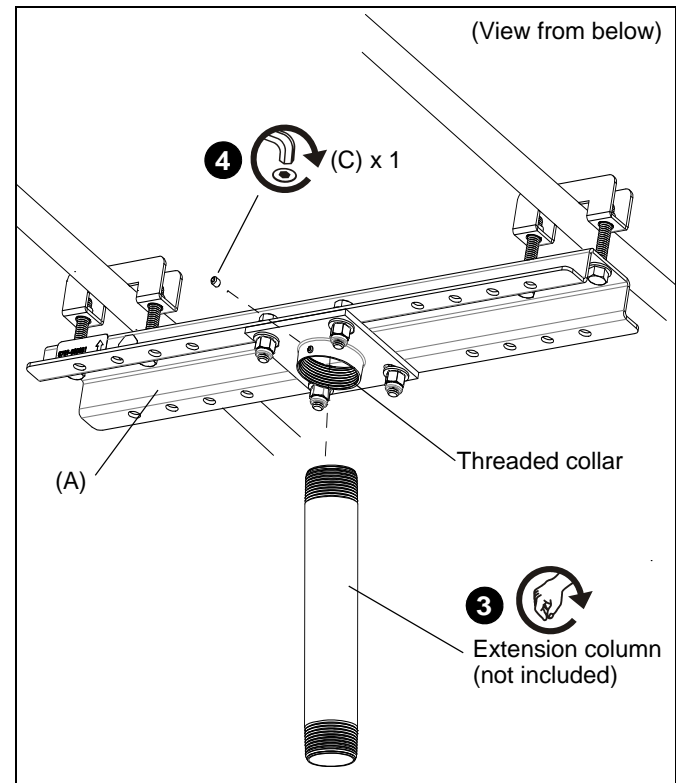

Figure 2
3. Install 1-1/2" NPT or NPSM following ANSI/ASME B1.20.1 (Schedule 40, 0.154" minimum thickness steel or aluminum - ASTM B221) threaded extension column (not included) into threaded collar on the CMA366 (A) until tight, with a minimum of four threads engaged. (See Figure 2)
4. Using 3/32" hex key (F) and 10-24 x 1/4" set screw (C), secure threaded extension column (not included) to CMA366. (See Figure 2)